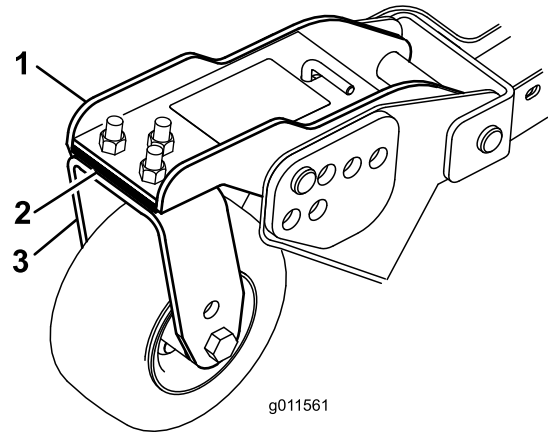

Figure 34
3. Adjust the shims (3 mm or 1/8 inch) on front caster arm(s) to match the height-of-cut decal (Figure 34).
3. If the inside edge of the side cutting unit is too high relative to the outside edge of the front cutting unit, remove a shim from the bottom of the front, inside caster arm on the side cutting unit (Figure 34).